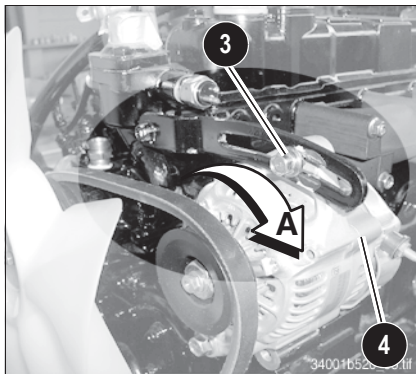

Fig. 14: Retightening the V-belt
- ⚠ Use a suitable tool to push the alternator in the direction of arrow **A** until reaching the correct V-belt tension (fig. 14).